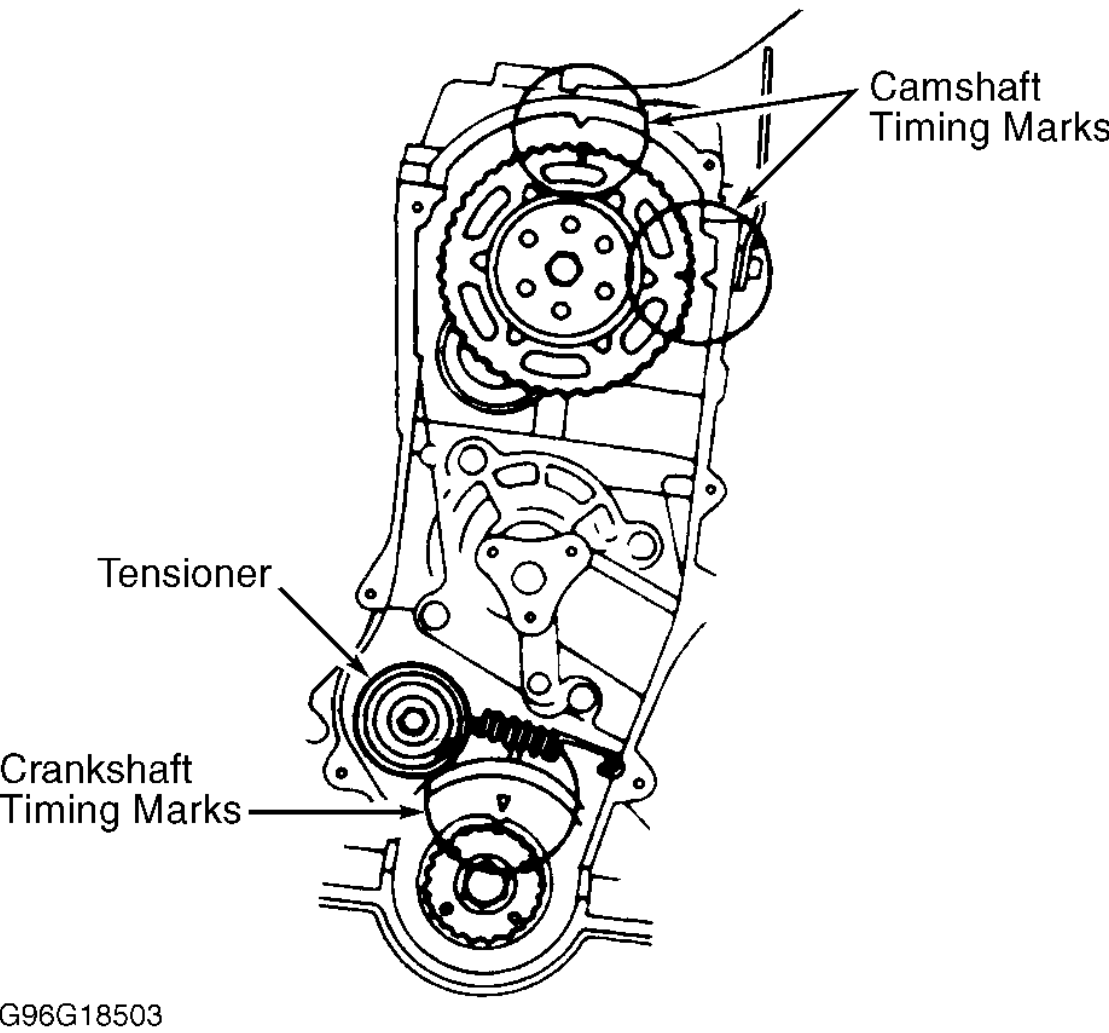

Fig. 3: Aligning Timing Marks
- 1. Ensure timing belt and sprockets are clean, and not worn or damaged. Align crankshaft and camshaft timing marks. See Fig. 3 . Position belt onto sprockets in original running direction.